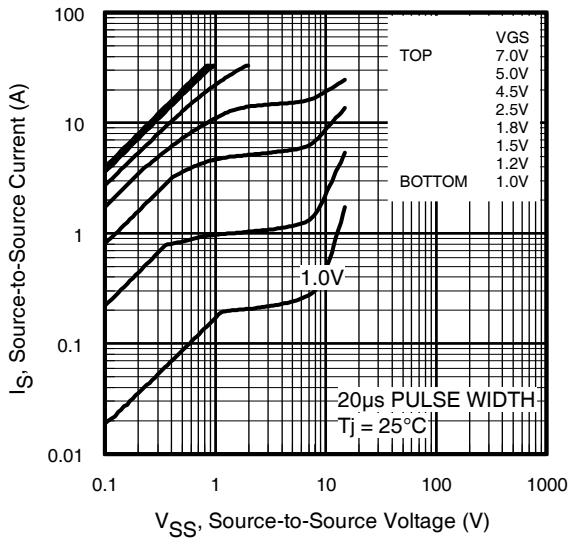

Fig 1. Typical Output Characteristics. ④
- ① Repetitive rating; pulse width limited by max. junction temperature.
- ② Pulse width  $\leq 400\mu s$ ; duty cycle  $\leq 2\%$ . Gate voltage applied to both gates.
- ③ When mounted on 1 inch square 2oz copper on FR-4.
- ④ Figures 1, 2 and 3: One Fet is biased with  $V_{GS} = 9.0V$  and curves show response of the second FET. See Fig.4.